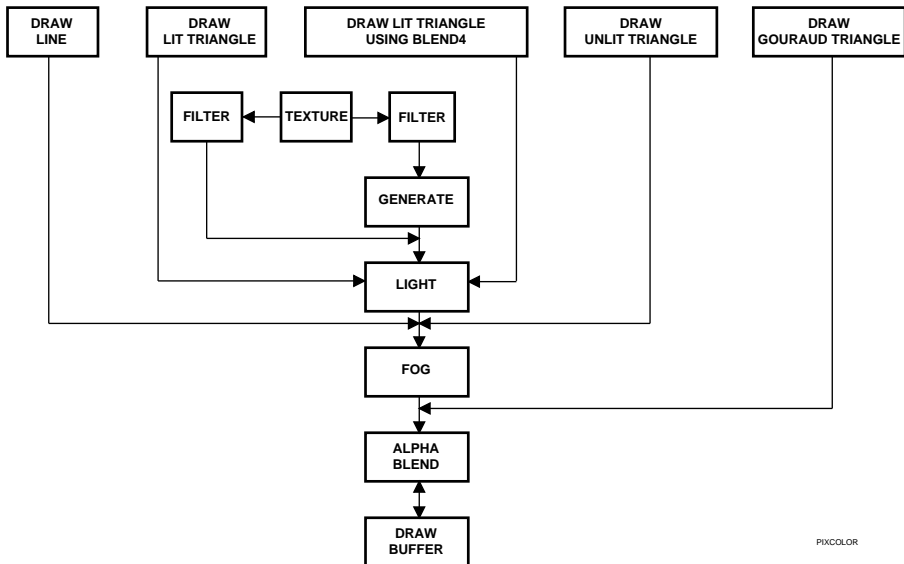

Figure 15-7. Pixel Coloring
Pixel color generation for 3D drawing occurs in a series of steps as depicted in Figure 15-7. The first of these, calculate the source pixel color, has been explained in the 3D line and triangle drawing sections above. The remaining steps are:
4. Fog - Also called depth cueing. As shown in Figure 15-7, the input can either be the source pixel color or the result of the filter/generate steps.
Lighting is the blending of the texel color with the source pixel color. As seen in Figure 15-7, it is used only when a lit triangle is specified in bits 30-27 of the Command Set register. Bits 16-15 of the Command Set register specify the blending modes as follows:
Fogging is enabled via bit 17 of the Command Set register. This operation uses the pixel's alpha value to interpolate between the pixel color at this stage of the coloring process (see Figure 15-7) and a fog color specified in MMB(0/4)F4. If the alpha value corresponds to the distance from the viewer, this is called depth cueing. If fogging is being done, source alpha cannot be specified for alpha blending (i.e., bits 19-18 of the Command set register cannot be 11b).
Alpha blending blends the pixel color at this stage of coloring (see Figure 15-7) with the color of the corresponding pixel in the draw buffer. It is enabled via bits 19-18 of the Command Set register. If these bits are 10b, the texture alpha is used for the interpolation factor. The texture alpha is actually the alpha for the pixel at this stage of the coloring and not a texel alpha. If bits 19-18 are 11b, the source alpha is used for the interpolation factor. This is the original pixel alpha before texturing.